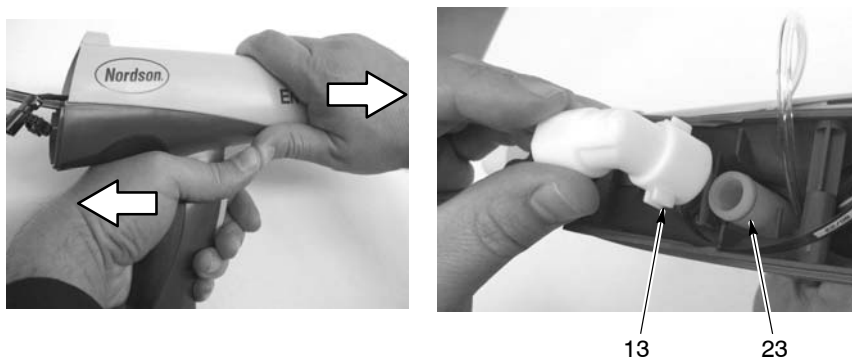

Figure 3 Removing Bulkhead and Body Screw
13. See Figure 3. Grasp the handle in one hand and the gun body in the other. Press the thumbs of each hand together while pulling in opposite directions to separate the gun body from the handle.
14. Remove the elbow (13) from the inlet tube (23).